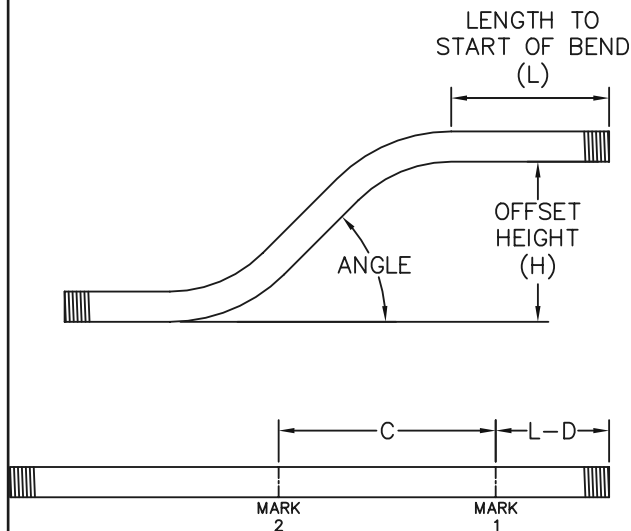

FIGURE 18A
1. Determine the desired length (L), height (H) and angle for the offset (See figure 18A).
3. In the upper left corner of the chart find the "D" value for the size and type conduit you are going to bend. Deduct this value from the desired length (L) and make a mark this distance from the end of the conduit. This is your first bending mark (Mark 1).
4. Using the desired angle, locate the "C" value that corresponds to the desired height (H). Make a mark the distance "C" from Mark 1. This is your second bending mark (Mark 2).